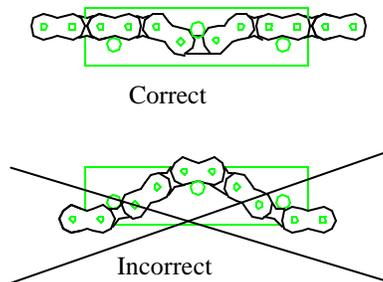

Figure 13
***Make sure the tool is not inserted up side down. Refer to Figure 13.***